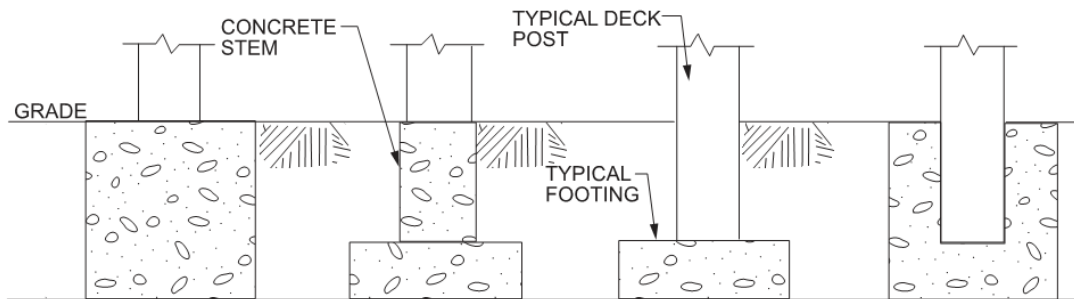

Figure 9: Post Attachment to Footing
2. Posts shall bear on footings in accordance with Figure 9. Posts shall be restrained to prevent lateral displacement at the bottom support. Such lateral restraint shall be provided by manufactured connectors, installed in accordance with the manufacturers' instructions, or a minimum post embedment of 12-inches in surrounding soils or concrete piers